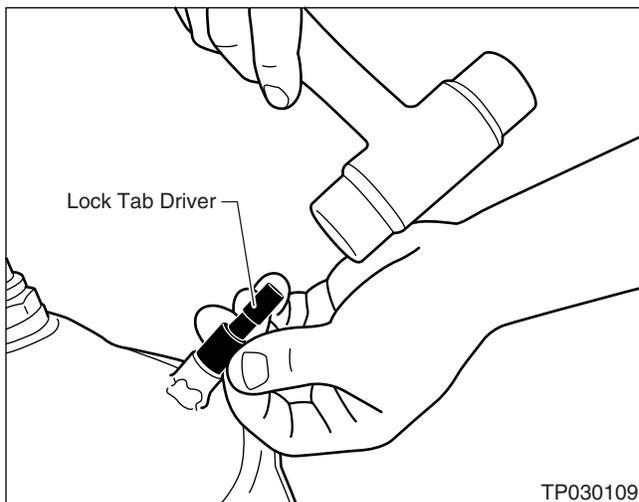

Figure G7
9. Drive the Lock Tabs down flush with the special Lock Tab Driver tool and a hammer (see Figure G7).